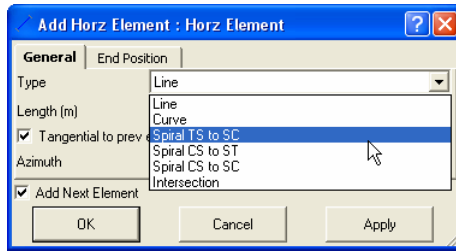

Figure 9-40. Select Spiral Direction
- To add a spiral, click **Add Horz Element** and select the direction of the spiral in the *Type* field of the *Add Horz Element* dialog box (Figure 9-40 on page 9-24).